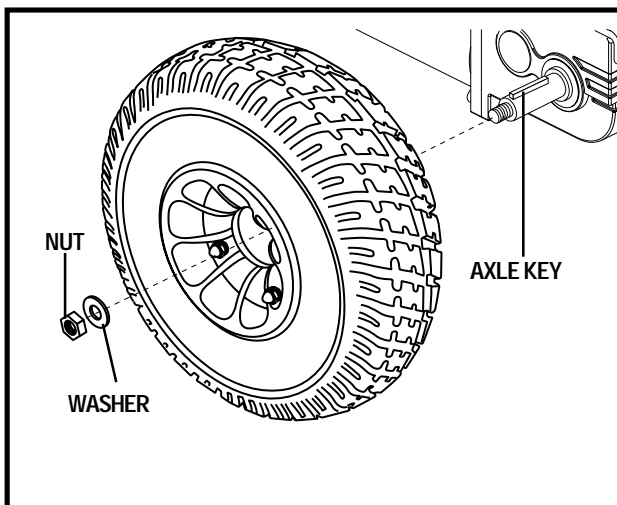

Figure 29. Drive Wheel
4. Remove the drive wheel nut and washer from the wheel axle. See figure 29.